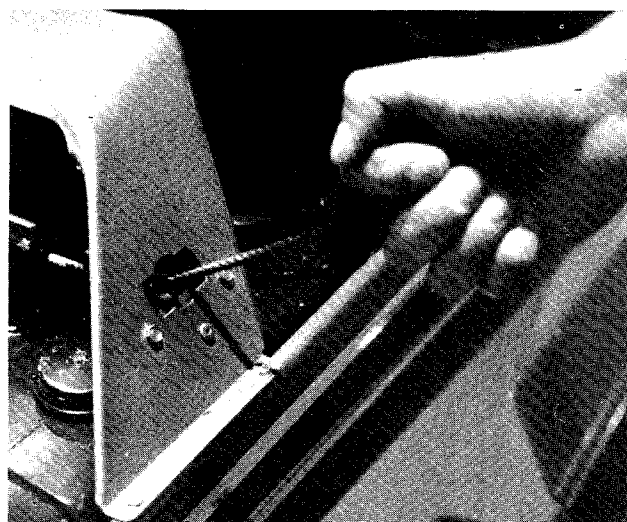

FIGURE 7. RECOIL STARTER
7. **Recoil Model.** Turn the ignition key to the **ON** position. Twist the recoil starter handle until it is free and pull it with a quick steady motion. After the engine starts, return the recoil starter handle. Twist it until it locks. See figure 7.